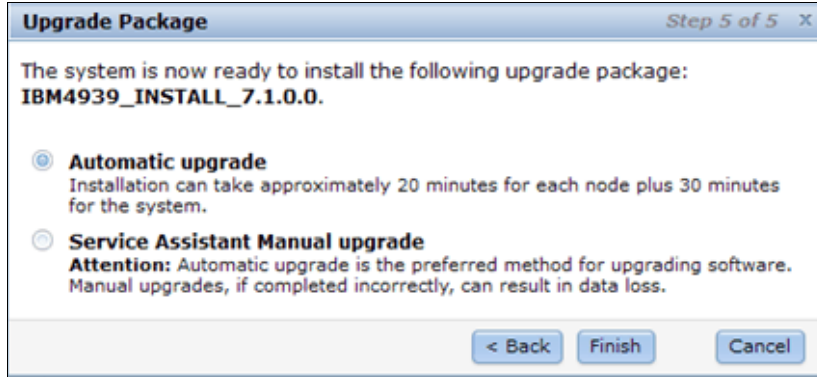

Figure 13-22 Step 5 of 5 Start the upgrade
10. Click **Next** to continue the upgrade. Select **Automatic upgrade** and click **OK**, as shown in Figure 13-22.